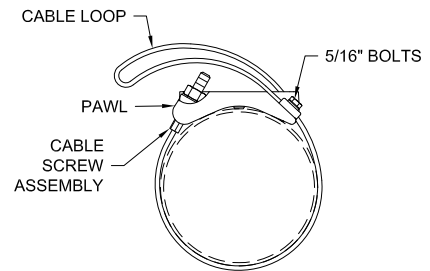

Figure 2
2. Place both Cable Screw Assemblies in the casting pawls of the Talon Clamp as shown in Figure 2. Loosen the two (2) 5/16" bolts on each Cable Plate. Pull the cable loop to tighten the cable on the mast arm. To secure the cable with the Cable Plates, tighten the four (4) 5/16" bolts to 15-18 ft-lb of torque. **DO NOT OVERTIGHTEN.**